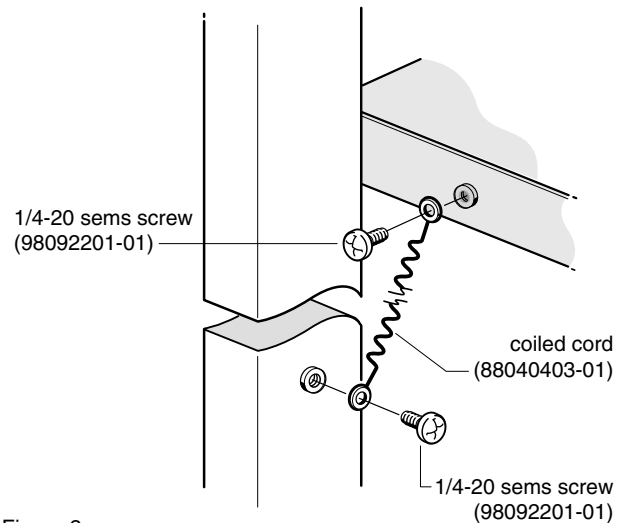

Figure 2
1. Using the 1/4-20 sems screw provided, attach one end of the coiled cord to the threaded insert located on the back left-hand corner of the shelf and the other end to one of the frame's two threaded grounding locations or other appropriate path to ground. Tighten screws. (Figure 2)